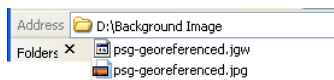

Figure 2-66. ESRI World File Format
- ESRI World File Format (Figure 2-66)